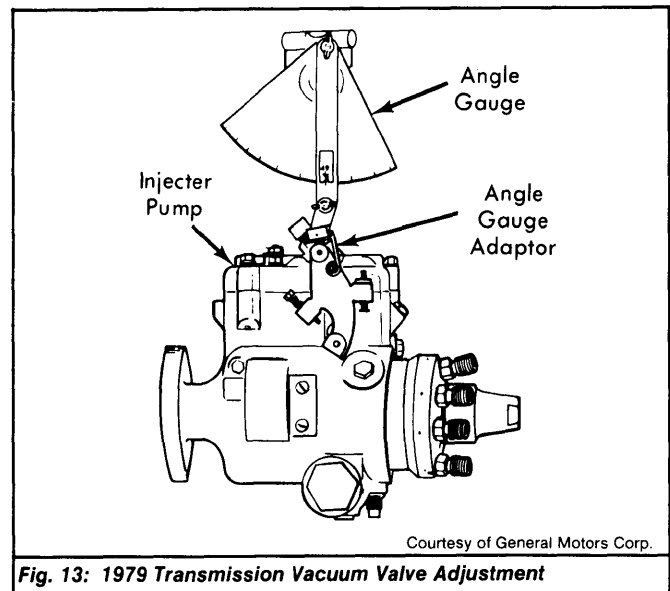

Fig. 13: 1979 Transmission Vacuum Valve Adjustment
2) Install Angle Gauge Adapter (J-26701-15) on injection pump throttle lever. Install Angle Gauge (J-26701) on adapter. Rotate throttle lever to wide open throttle position. See Fig. 13.